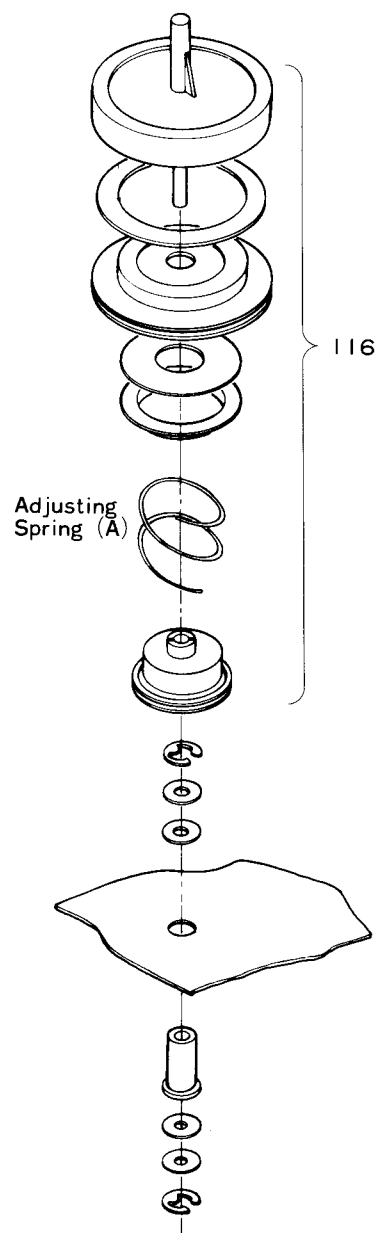

Fig. 6
5. ADJUSTMENT IN REWIND MODE (Refer to Fig. 6)